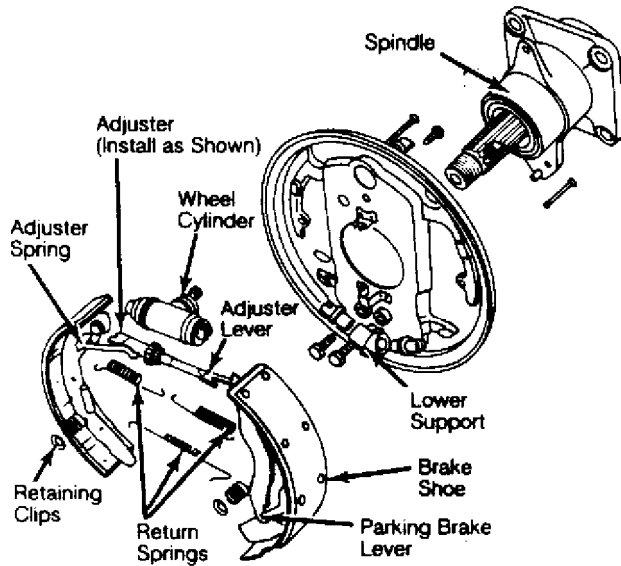

Fig. 6: Exploded View of Rear Brake Assembly (Vanagon)
1) After removing drum, remove retainer clips, hold-down springs and anchor pins. Disconnect parking brake cable from lever on brake shoe. Disconnect lower return and adjuster springs. Pull brake shoes out of lower support. See Fig. 6.